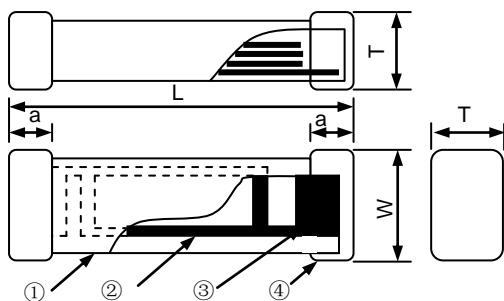
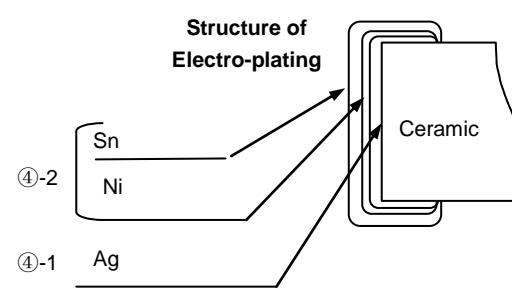

Fig. 4-3
Fig. 4-4
- Structure: See **Fig. 4-3** and **Fig. 4-4**.